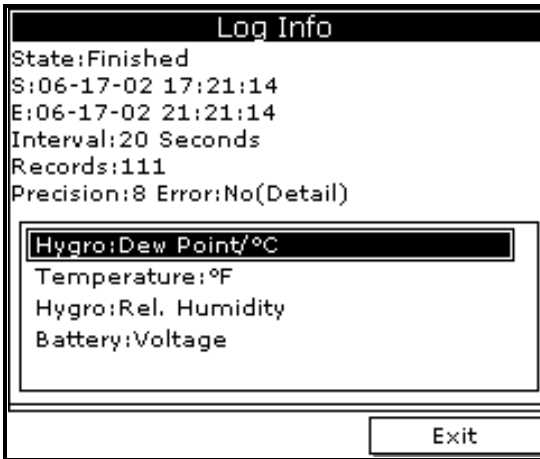

Figure 38: Log Details
4. Use the arrow key to scroll to **Details** and press [ENTER]. A screen similar to Figure 38 on page 83 appears.